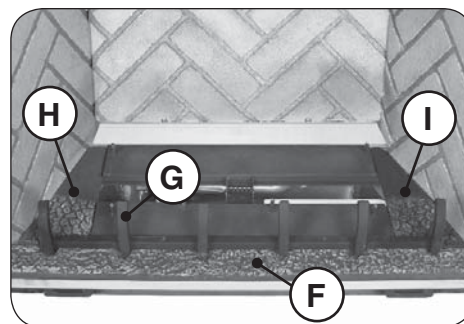

Fig. 32-3 Floor panel, grate, left/right floor panel
9. Reinstall the front floor panel at the front of the unit floor. Ensure it completely rests inside of the front lip of the unit. See Fig. 32-3, "F".
10. Reinstall the grate in between the front burner and front floor panel. See Fig. 32-3, "G".
11. Install the left and right floor panels on each side of the burner assembly. See Fig. 32-3, "H" and "I".